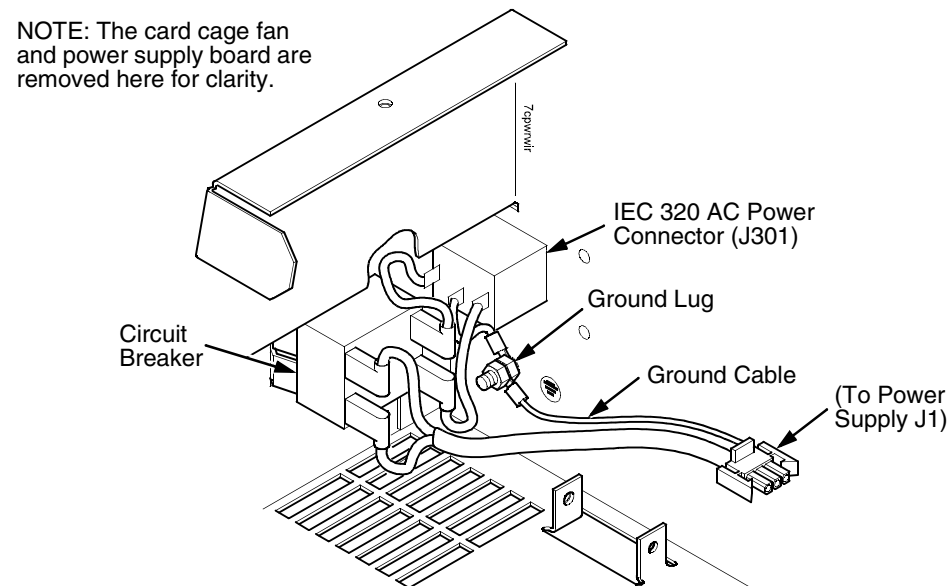

Figure 1. This figure is a detail drawing showing the ground lug for the circuit breaker of cabinet models.
3. Make sure the ground cable from the circuit breaker power leads is undamaged and firmly attached to the ground lug on the wall of the card cage, as shown in Figure 1.